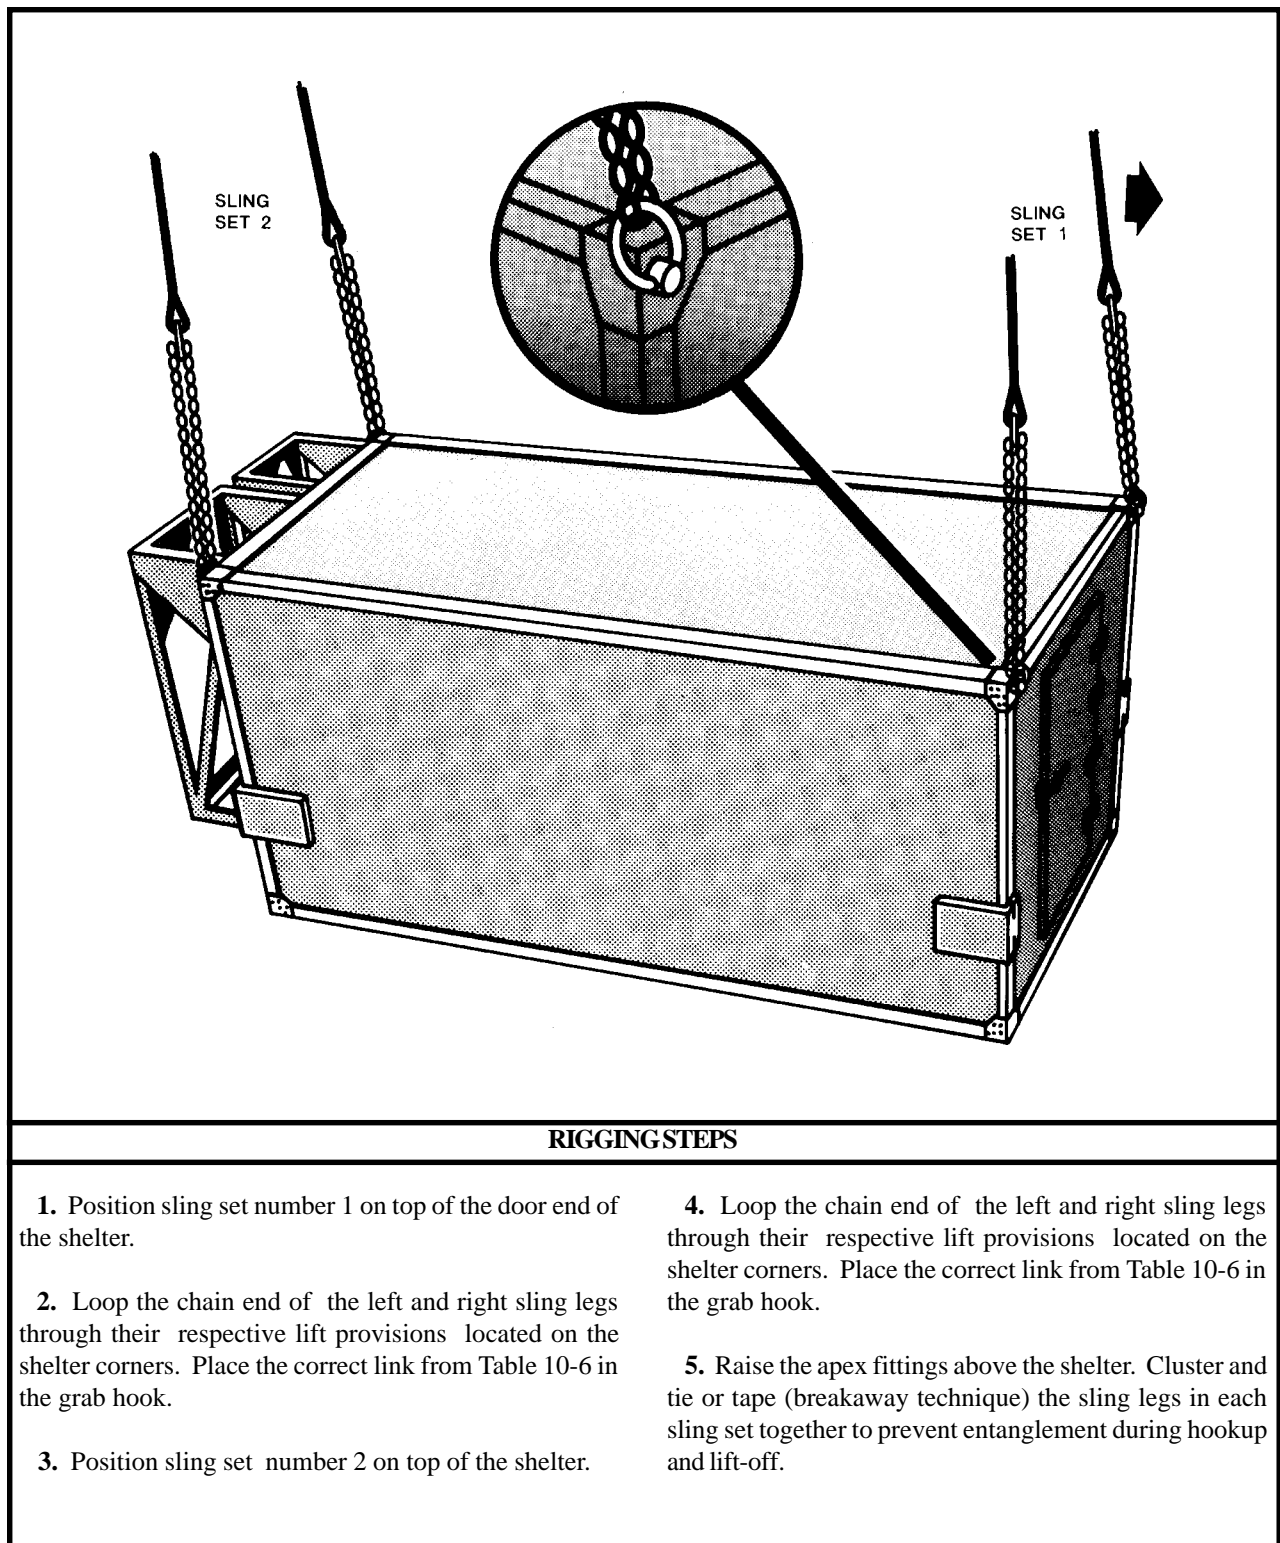

Figure 10-6. AN/TYC-5A Data Communications Terminal
(2) Rigging. Rig the load according to the steps in Figure 10-6.